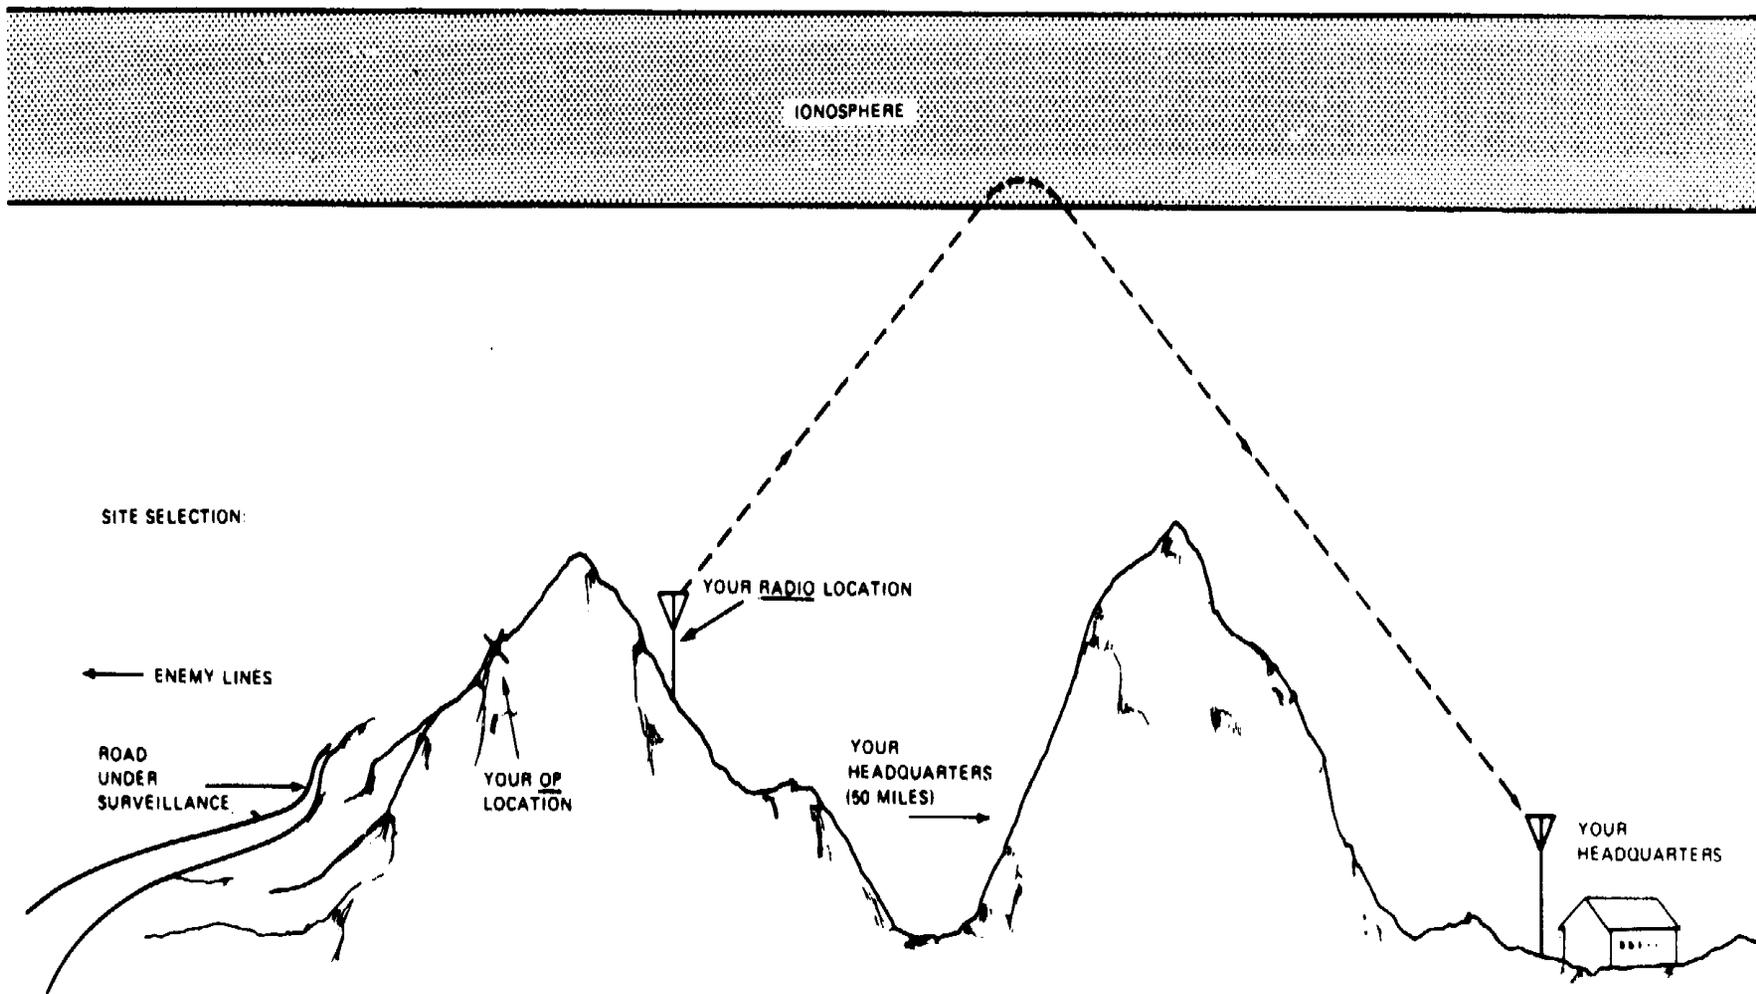

Figure A2-6. Site Selection, Situation
A2-24. Scenario (Figure A2-6). Your squad must set up an observation post (OP) as part of a road surveillance team. You are required to check in with your headquarters (50 miles east) once every hour. Your OP is in a mountainous region and a large mountain is located between you and your headquarters (see figure A2-6). Your frequency possibilities are the same as in situation 1.